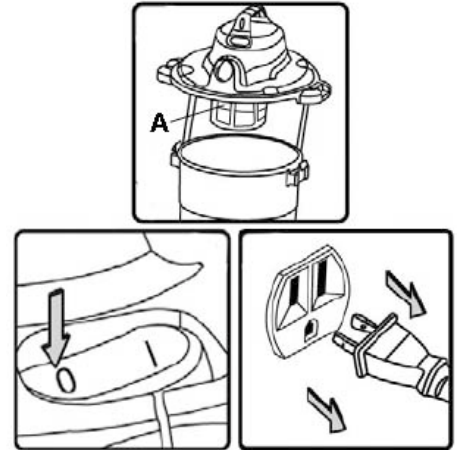

Figure 13
This section relates to wet vacuuming operations. This vacuum is fitted with an automatic suction shut-off float cup (A) Fig.13 which floats up when the liquid level increases in the tank, it then stops the suction action when the tank has reached its maximum capacity of liquid. Make sure the float cup is clean at all times.